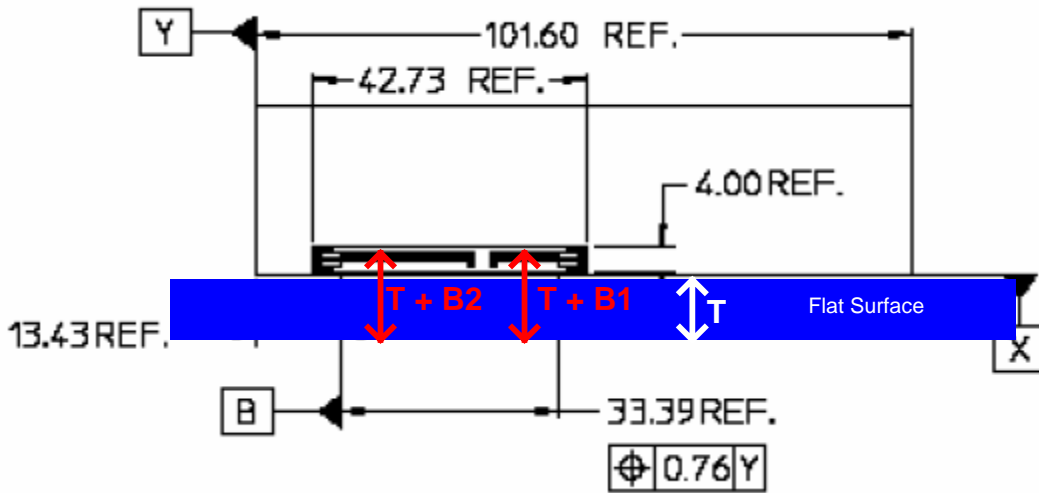

Figure 8
3. At the rightmost part of the plug (see Figure 8), measure the distance from the top of the tongue of the SATA plug to the bottom of the flat surface. Record this value as  $T+B1$ .
4. At the leftmost part of the plug (see Figure 8), measure the distance from the top of the tongue of the SATA plug to the bottom of the flat surface. Record this value as  $T+B2$ .